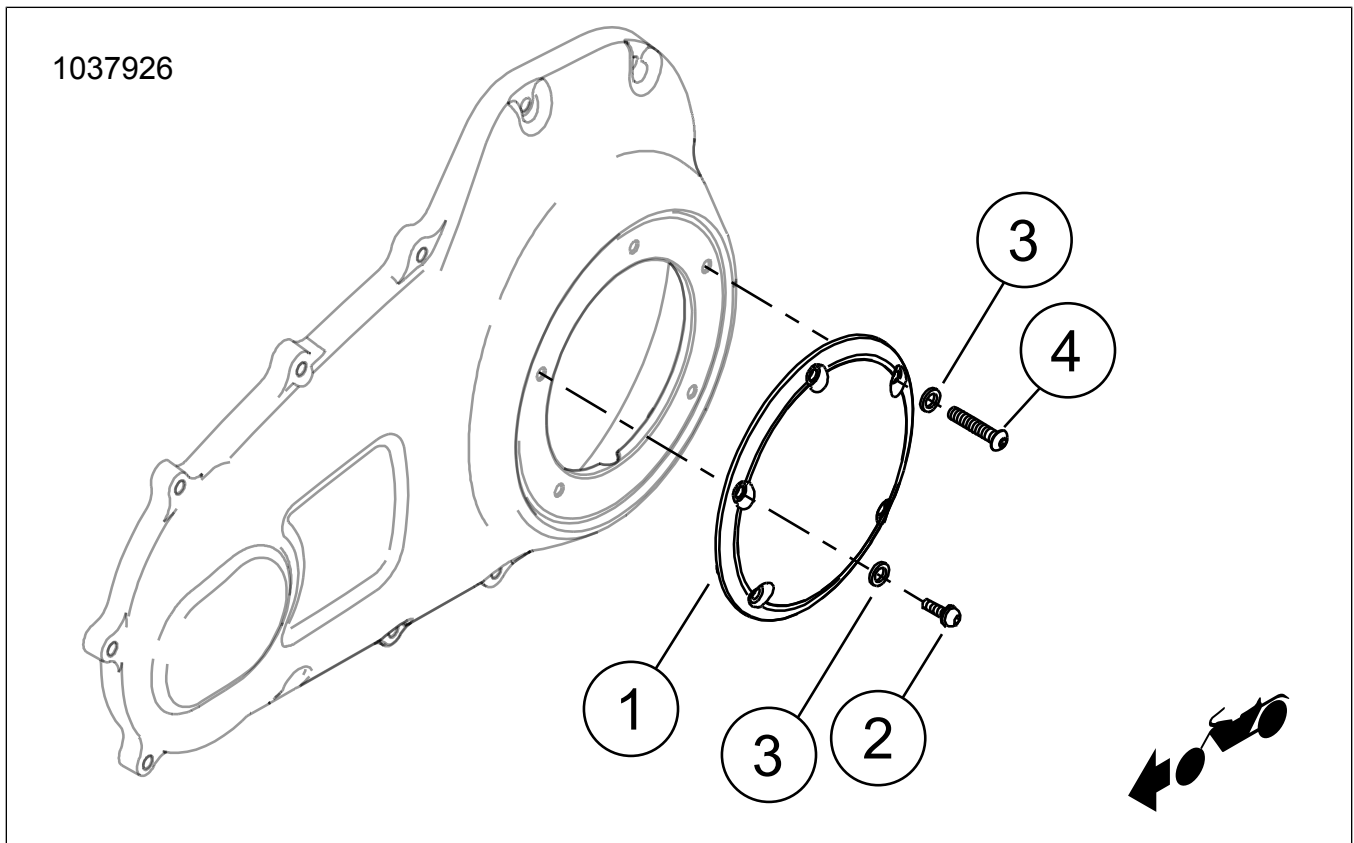

Figure 1. Kit Contents: Derby Cover Components
1. **Kits: 25338-99B, 25700435, 25700436, 25700446, 25700469, 25700471, 25700472, 25700473, 25700474, 25700476, 25700505, 25700740, 25700843, 25700844, 25700887, 25700888, 25700987, 25700988, 25701020, 25701022, 25701057, 25701059, 25701086, 25701169, 25701171, 25701403, 25701404, 25701519, 25701536:** Install **new** derby cover (1), O-ring and **new** screws (2) and washers (3).
2. **Kits: 25700434, 25700437, 25700477, 25562-09, 25701173, 25701454, 25701480, 25701517, 25701518, 25701520, 25701537, 25701551, 25701573, 25701574:** Install **new** derby cover (1), O-ring and OE screws (2) with captive washers.
3. **Kits: 25700571, 25700572, 25700573, 25700703, 25700704, 25700705:** Install **new** derby cover (1), O-ring and **new** screws (2) and washers (3). Note that one screw (4) is longer and must be located in the 2 o'clock position on the derby cover as shown in Figure 1.
4. **Kits: 25700515, 25700768, 25700822, 25700825, 25700826:** Install **new** derby cover (1) and **new** screws (2) as shown in Figure 1. No washers are used with this kit.